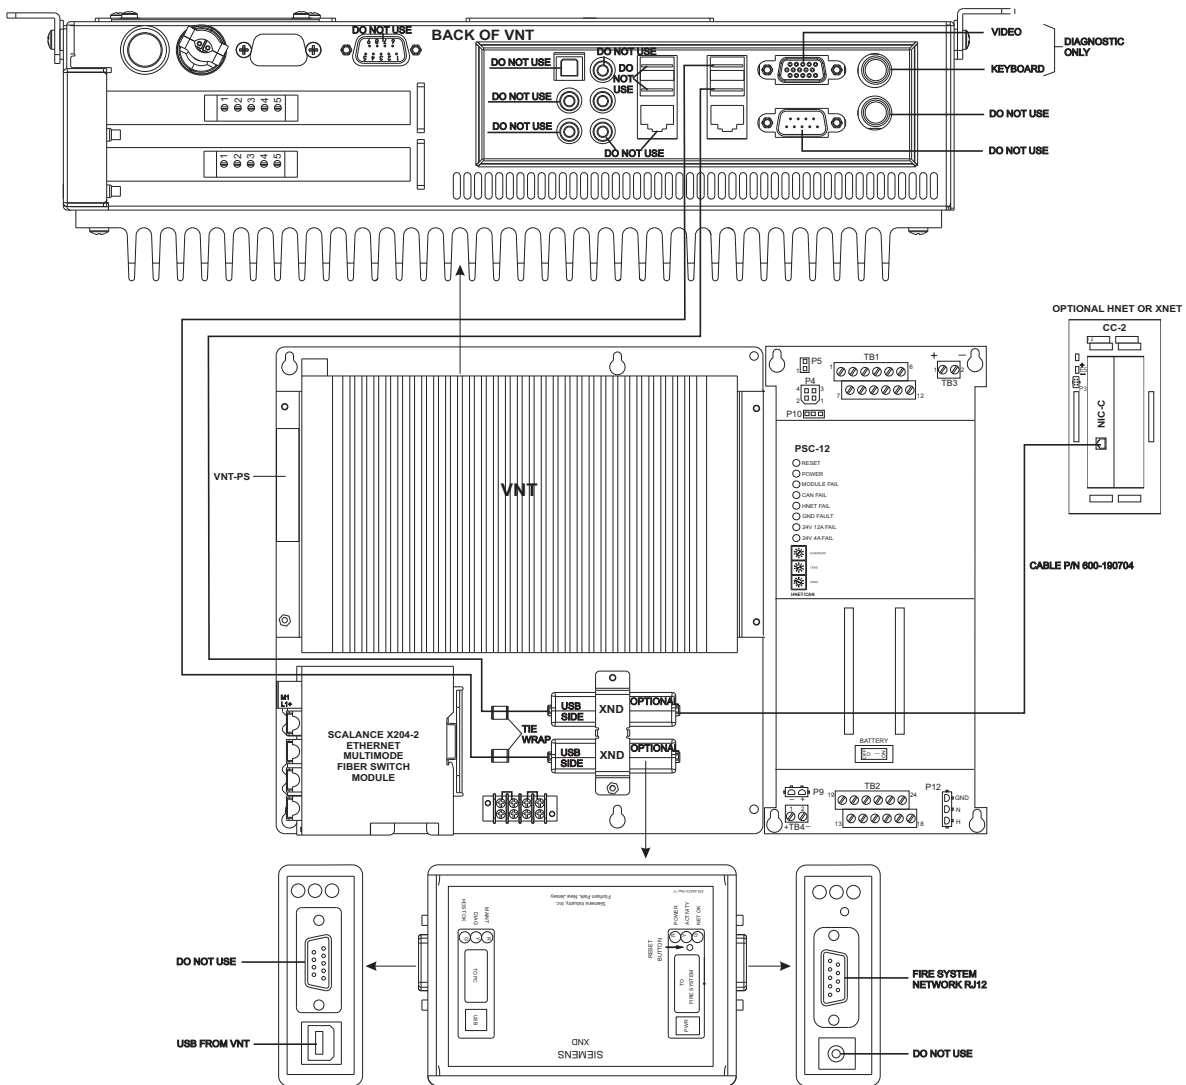

Figure 3
3. Typical wiring for the XND in a VNT-Building connection is shown in Figure 3.